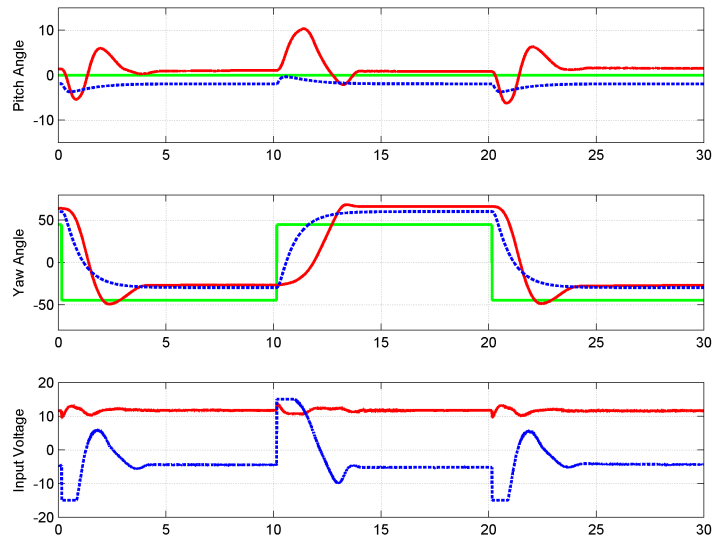

Figure 5.21: Closed-loop LQR response under yaw reference step
16. Figure 5.21 depicts the typical measured and simulated pitch and yaw response given a desired step yaw angle. There is a steady-state error in the yaw angle.